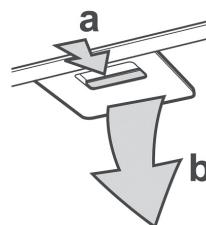

Fig. 1
- Remove the metal filters (Fig. 1). If carbon filters are mounted, remove them.
- Remove the metal filters (Fig. 1), and remove the carbon filters from them.